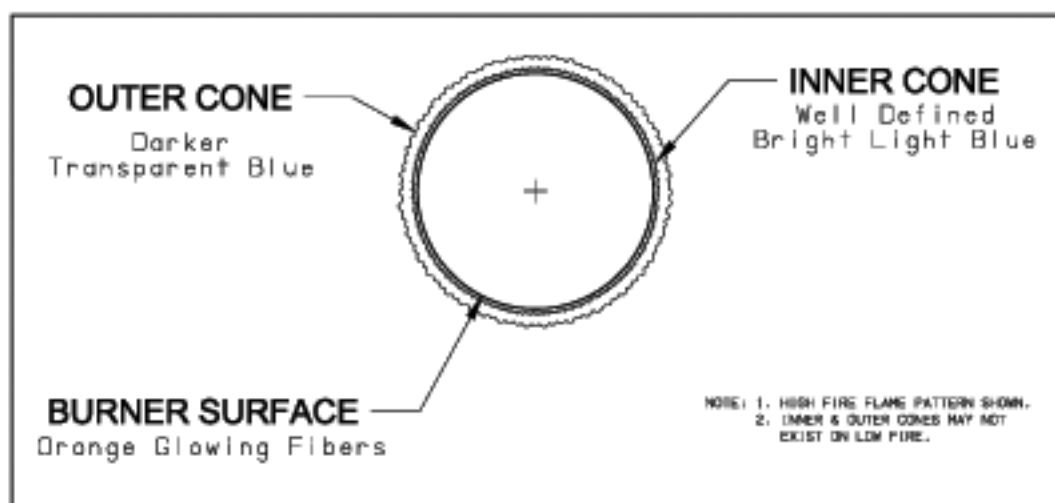

Figure 11.1: Burner Flame
- 9) Inspect the flame visible through the window. On high fire the flame should be stable and mostly blue (Fig. 11.1). No yellow tipping should be present; however, intermittent flecks of yellow and orange in the flame are normal.